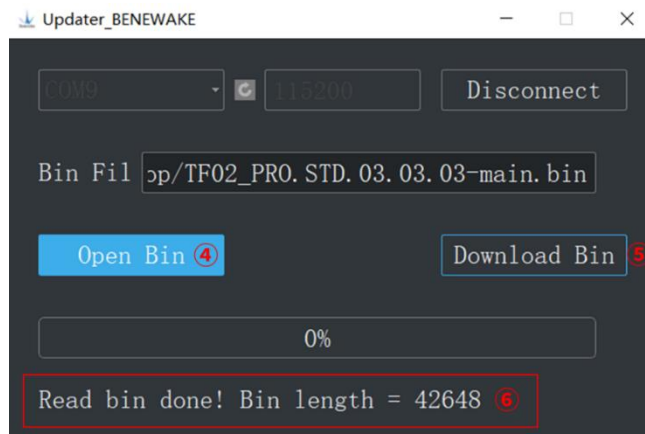

Figure 6-2 Upload firmware file
- 2) Click “④ Open Bin” to choose the firmware being flashed, the message “⑥Read bin done” will be displayed after the file is uploaded. Then click “⑤ Download Bin” to start upgrading. As shown in Figure 6-2.